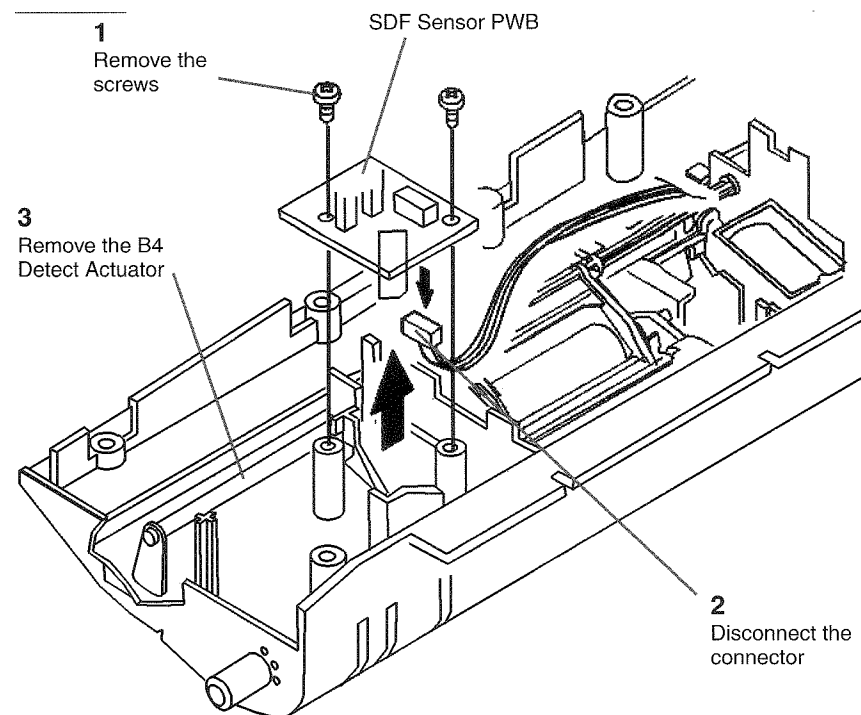

**Figure 4 Removing the Fax Control Panel**
4. (Figure 4): Remove the five screws and remove the Fax Control Panel.